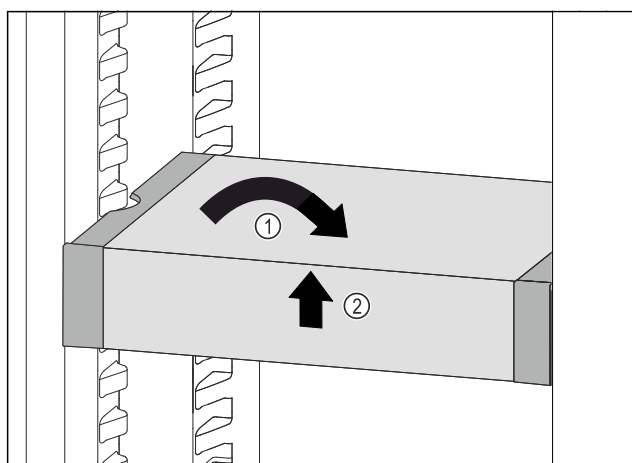

Fig. 123
- Set VarioSafe straight. Fig. 123 (1)
- Lift VarioSafe at the front. Fig. 123 (2)